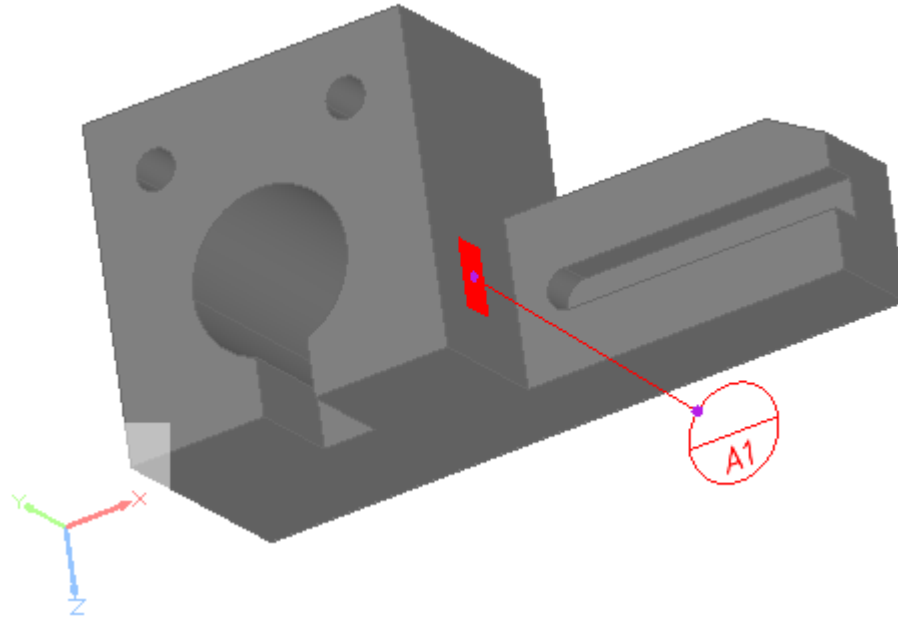

Figure 7. Datum target point with leader line and symbol, which position was changed
- Drag with a mouse to the desired direction. Release the mouse button to set the position (see Figure 7).